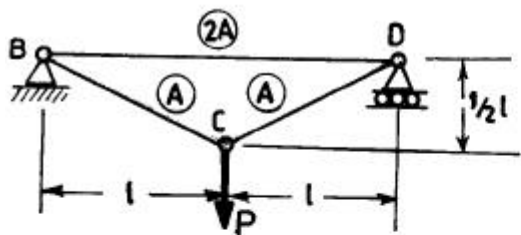

fig. 1
1. Determine the strain energy stored in the pin-jointed frame shown in Fig. 1. The area of cross-section of member BD is twice of that for AC and CD. E is constant for all members.